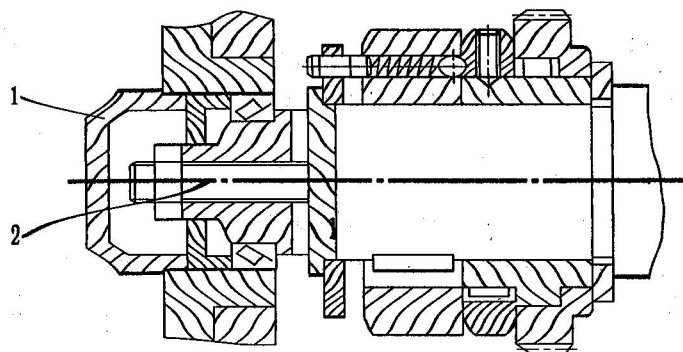

Fig.11-8 Safety clutch adjustment diagram
If the cutting force is always below the maximum permissible cutting force of the machine, the safety clutch needs to be adjusted with screw (2). Before adjusting, be sure to remove the cover (1). See Fig. 11-8. Care not to over tighten the clutch. An over tight clutch may lose the function of protection and cause damage to machine parts.